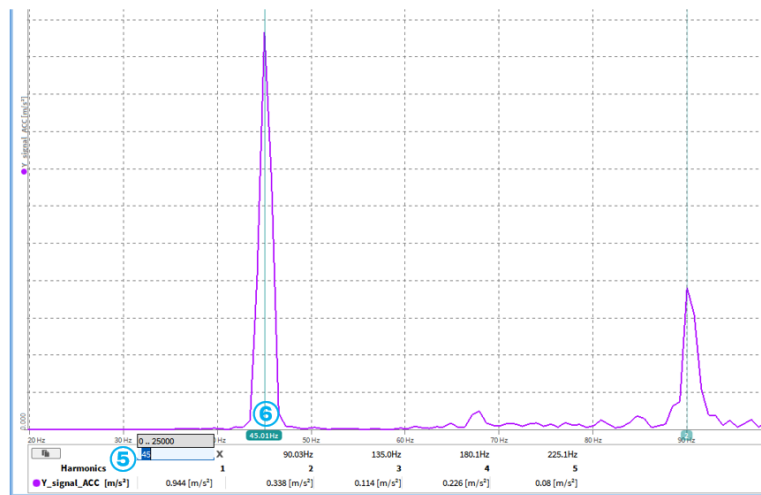

Fig. 8.65: Changing the 1st Harmonics cursor position
The cursor position can be changed by entering a new frequency for the first harmonic (see ⑤ in Fig. 8.65). It is also possible to move the first harmonic cursor with the left mouse button (see ⑥ in Fig. 8.65). The position of the higher harmonics is automatically adjusted.